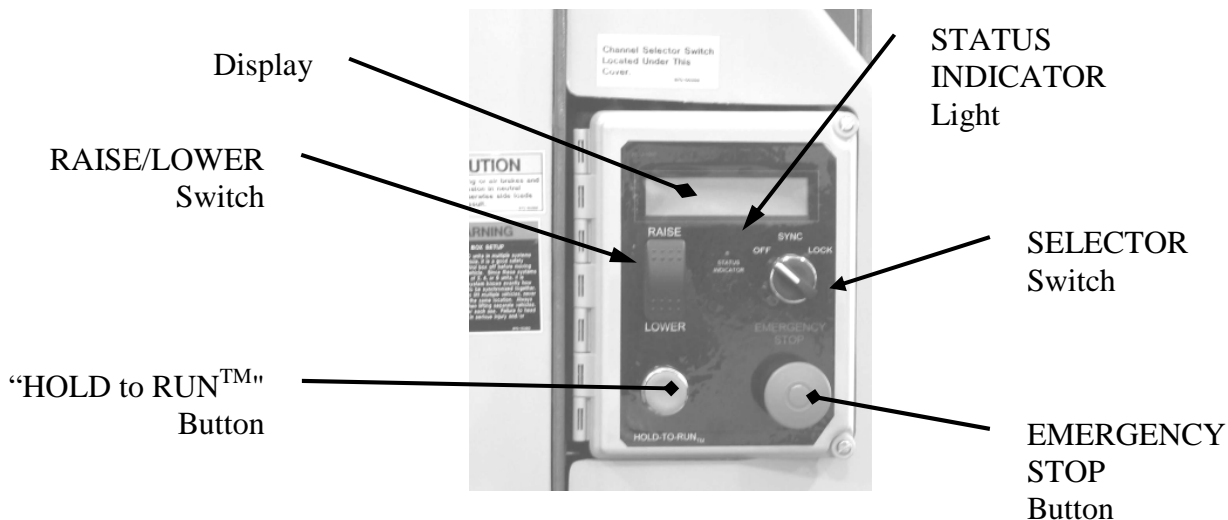

Figure 1
- f. Turn Selector switch on the Control Box at first lift unit to SYNC position. Use Raise/Lower rocker switch to select number of lifts to synchronize. Push the "Hold to Run™" button to confirm selection before moving to the next lift. See **Figure 1**.
- b. When ready to lift, push and hold the "Hold-to-Run™" button while moving the rocker switch to Raise position. See **Figure 1**. As Carriages raise vehicle, the Status Indicator will flash green. This will be normal.